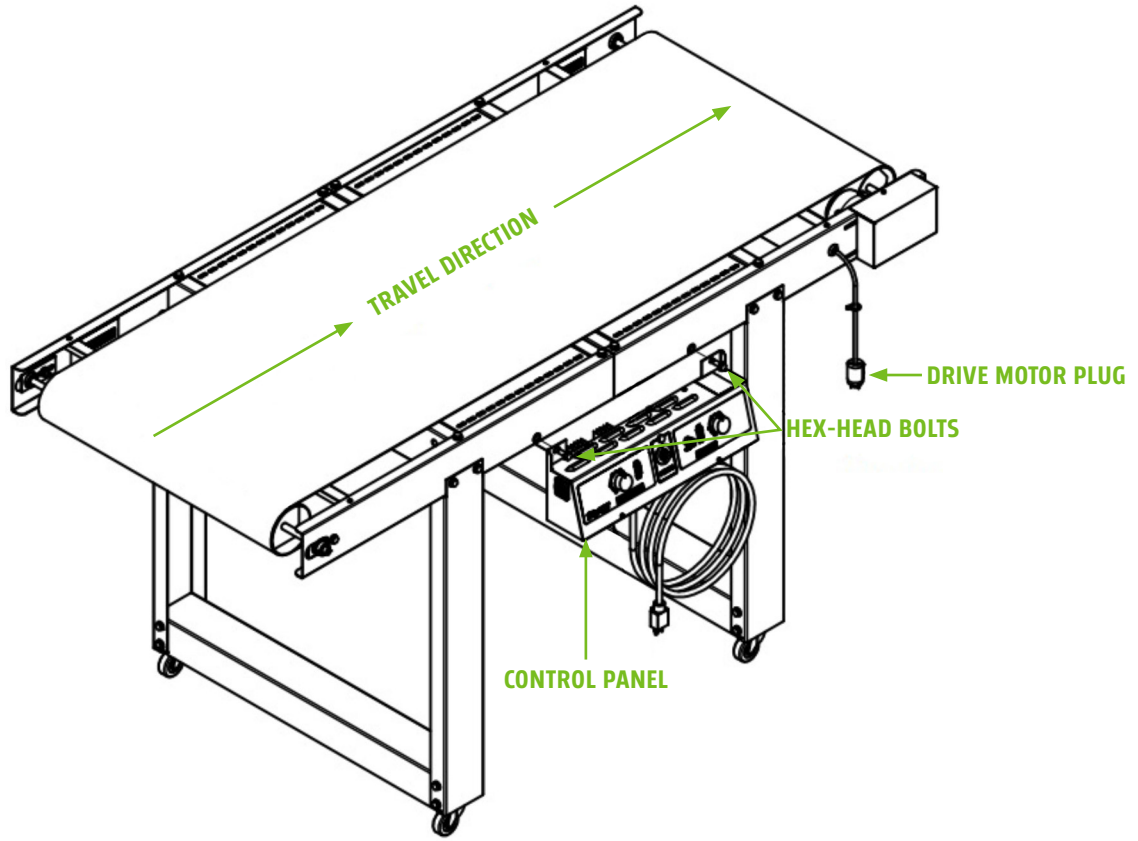

FIGURE 5
1. Two Hex-Head Bolts fasten the Control Panel to the Conveyor Assembly (See **Figure 5**).